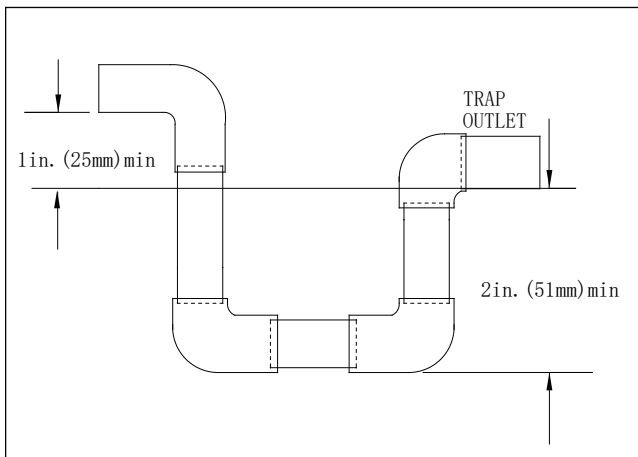

Figure 4-1
5. Make sure that the outlet of the trap is at least 1 in. (25mm) lower than the drain pan condensate connection to prevent the pan from overflowing (see Fig 4-1).